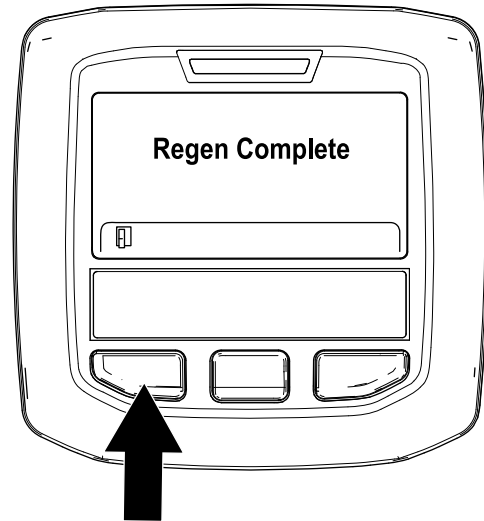

Figure 46
9. The parked regeneration is complete when the "Regen Complete" message displays in the InfoCenter. Press the left button to exit to the home screen (Figure 46).